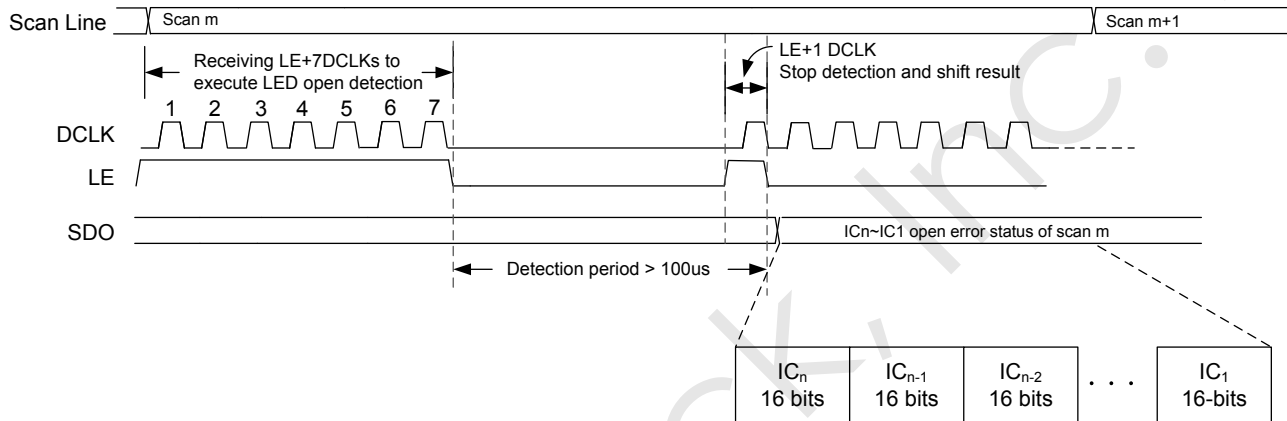

Figure 12. The timing diagram of compulsory open-circuit detection
As figure 12 shows, MBI5051 executes the compulsory open-circuit detection while the LE high pulse is sampled by 7-DCLK rising edges. In the duration of compulsory open circuit detection, all the output channels will be turned off. When LE high pulse pin is sampled by 1-DCLK rising edge, the result of open circuit detection will be shifted out from the SDO pin and the sequence is from /OUT15 → /OUT14 → ... to /OUT0.
1. During the detection, the frame cannot display normal until LE arrested 1-DCLK rising edge. The duration should be keep longer than 100us, as figure 12 shows. All the LEDs will instantly light up and produce flicker during the time.